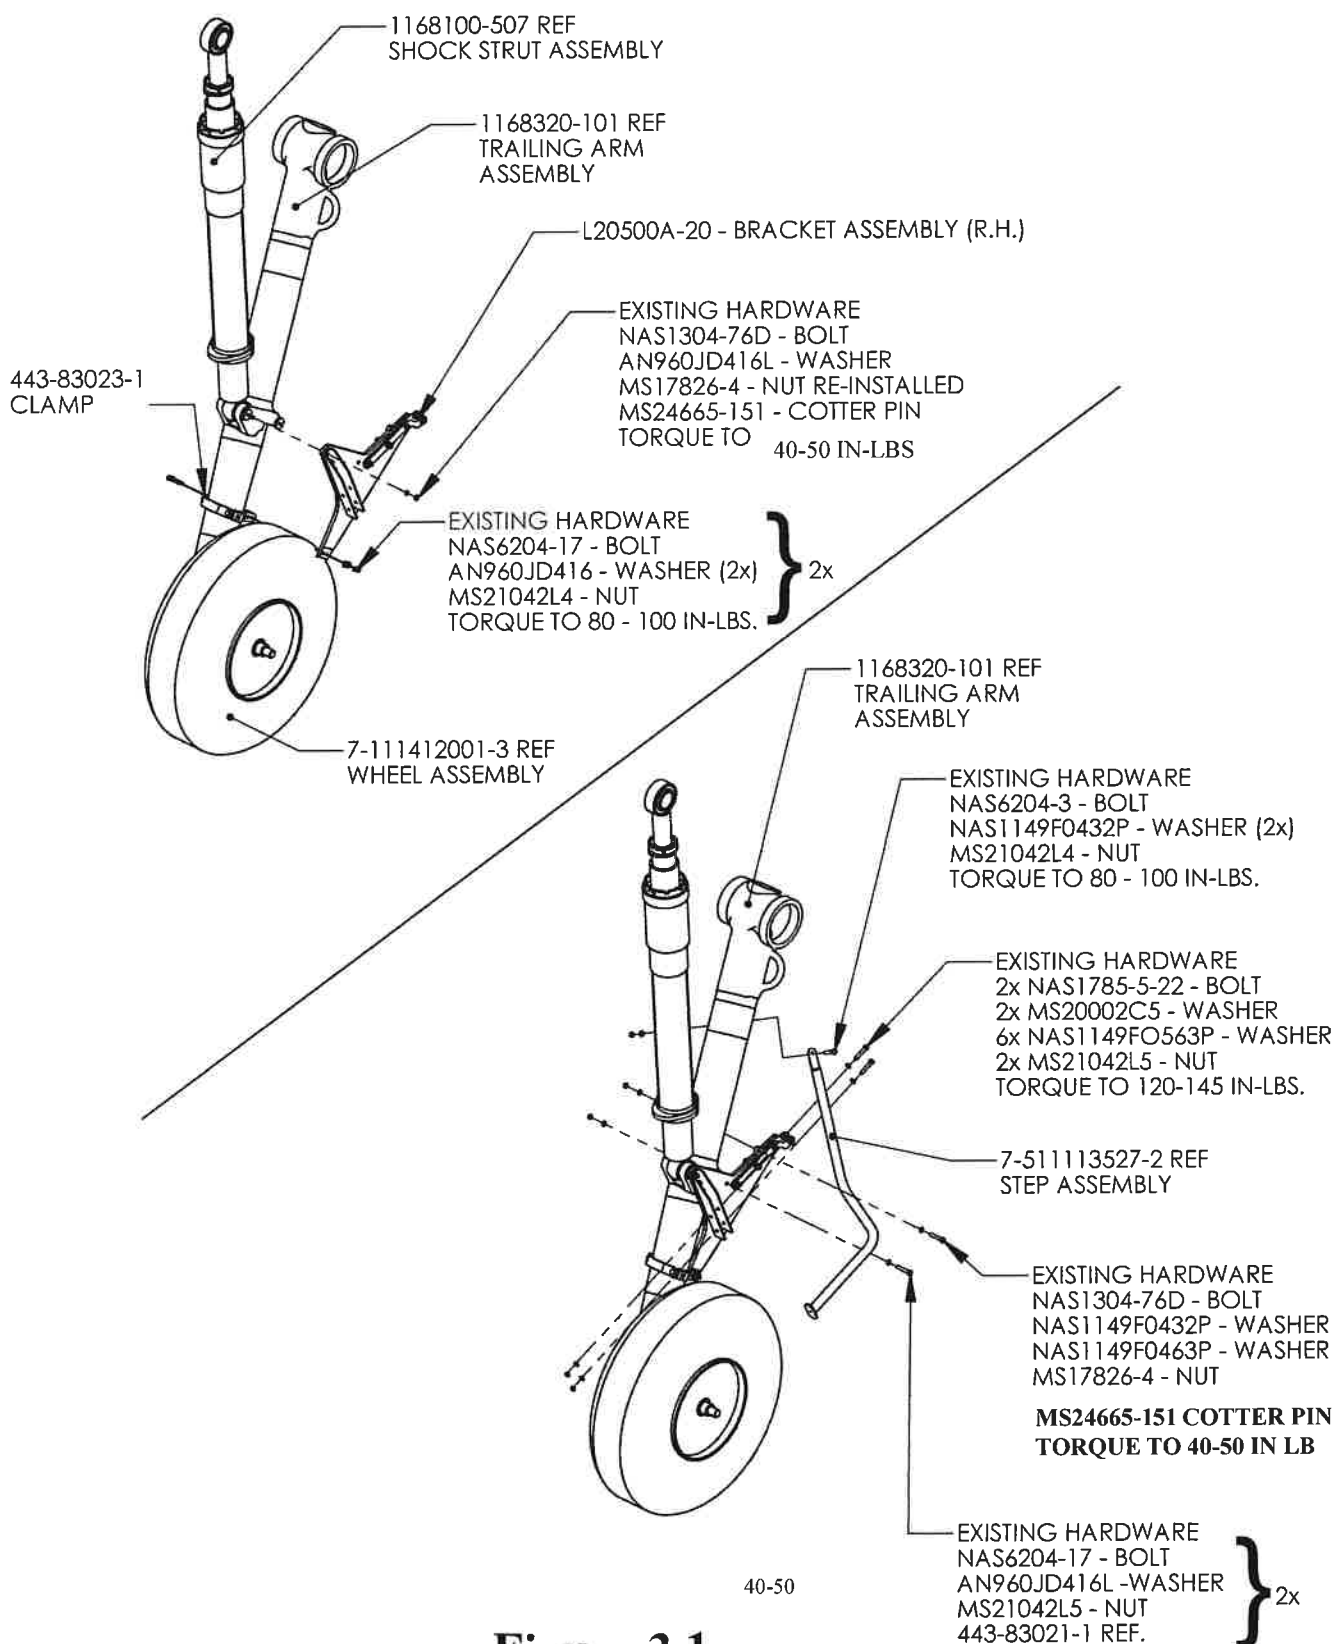

Figure 3.1
11. Attach Airglas Bracket Assembly (L20500A-20 R.H., L20500A-21 L.H.) to Main Landing Gear using existing hardware *See Figure 3.1*
12. Bolt Bracket Assembly to Clamp (443-83023-1) (both sides) using existing hardware from Step 10. *See Figure 3.1*
13. Re-install Step Assembly (7-511113527-1 & -2) to Bracket Assembly (L20500A-20, L20500A-21) using existing hardware from Step 9. *See Figure 3.1 inboard*
SEE FIG 3.1 FOR SPECIFIC DETAILS ON HARDWARE AND